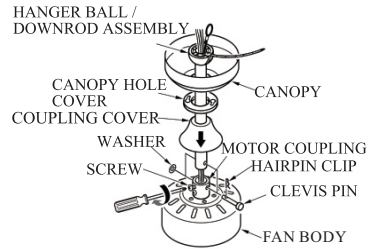

FIG.2
2. Insert the down rod through the center opening in the canopy, coupling cover and route the motor leads through the hanger ball/downrod assembly. Align the clevis pin holes in the downrod with the holes in the motor coupling. The clevis pin must pass through the holes in the motor coupling and the downrod. Place the washer onto the clevis pin and install the hairpin clip making sure to push straight leg of the hairpin clip through the hole near hanger ball to make sure the clevis pin is properly installed(see Fig.2)